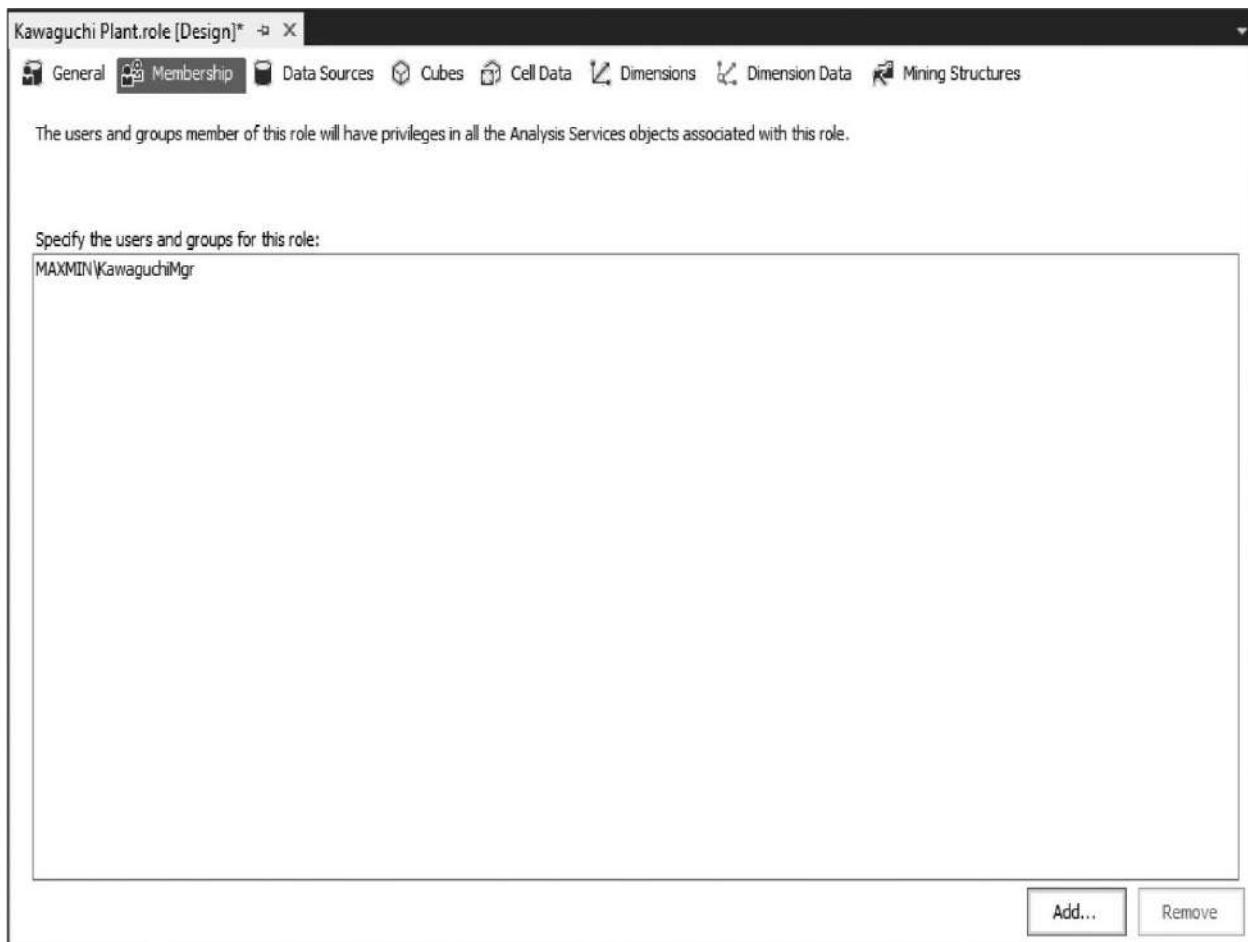

Figure 13-21 The Membership tab of the Role Design tab
9. Select the Membership tab. This is the place where the Kawaguchi plant manager's Windows login would be added to this role. If you have a test Windows login that you can use for testing this role, click Add and add the login to the role. Otherwise, move on to Step 10. The Membership tab of the Role Design tab is shown in Figure 13-21.